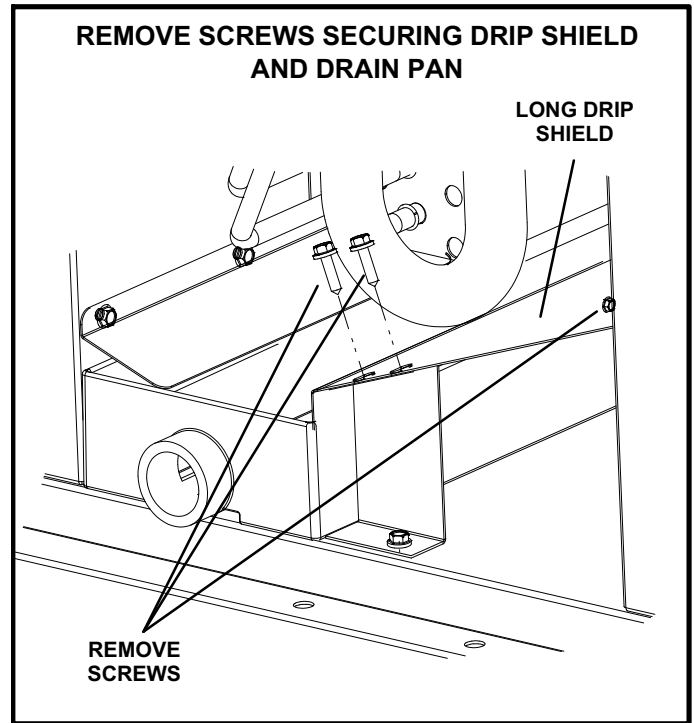

FIGURE 10
- 4- Remove and retain three screws securing drip shield. See figure 10.